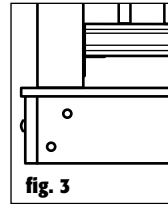

fig. 3
Step 3: Position, plumb with a level and clamp the rail post on the interior face of the joist. Plumb again. The 4x4 railing post should be bolted to the inside of the joists using two 1/2"x6" galvanized carriage bolts. Corner posts use a third carriage bolt inserted through the adjacent joist (Figure 3).